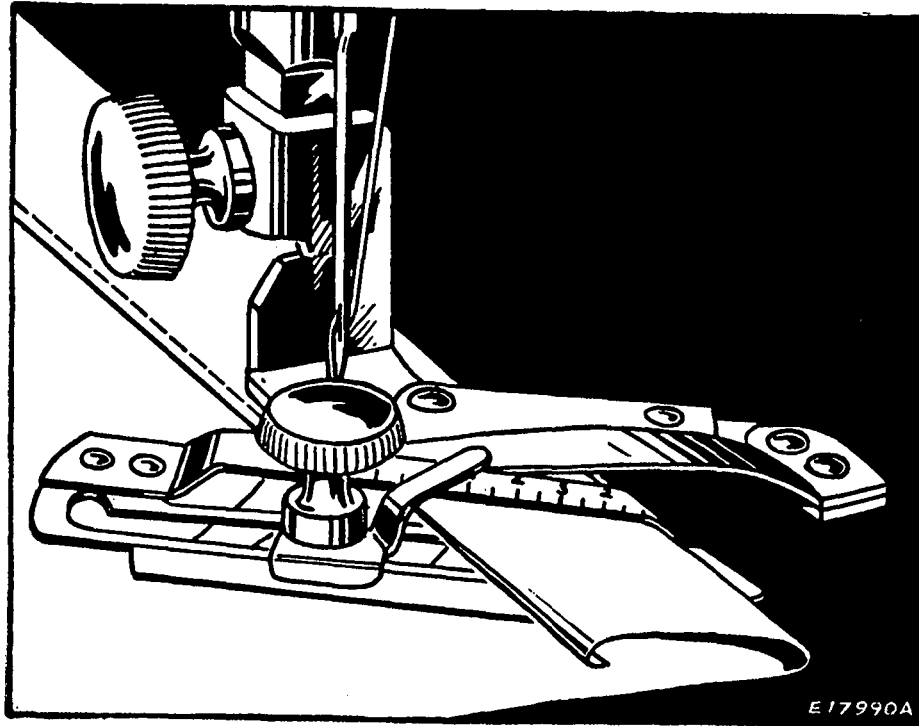

FIG. 42. SHOWING HOW ADJUSTABLE HEMMER IS USED
- (3) Loosen the thumb screw on the hemmer and move the scale until the pointer registers with the number of the desired width of hem, No. 1 indicating the narrowest hem and No. 8, the widest, then tighten the thumb screw.
- (4) Place the cloth in the hemmer and draw it back and forth until the hem is formed, as shown in **Fig. 42**.
- (5) Draw the end of the hem back under the needle, lower the presser bar and commence to sew.
- (6) Guide sufficient cloth into the hemmer to turn the hem properly.